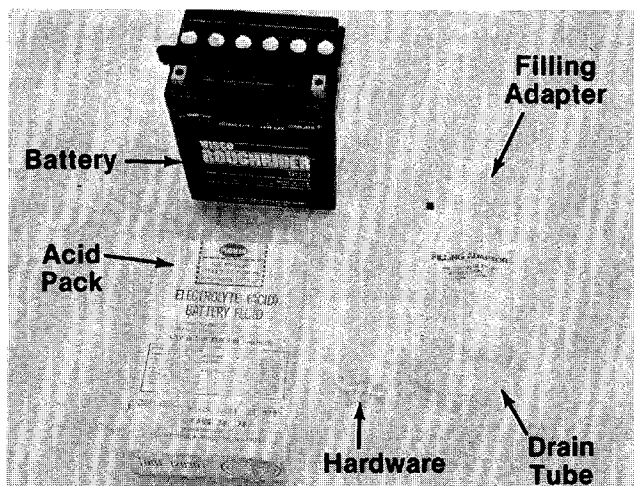

FIGURE 2.
- 1. Upon opening the battery pack, you should receive acid pack, battery, drain tube, filling adapter and hardware. See figure 2.